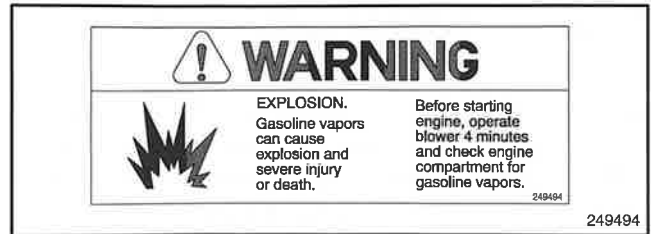

Figure 9 Decal
6. For gasoline-powered generator sets, select a location as near as practical to the generator remote digital gauge for mounting warning decal part number 249494. See Figure 9. The decal should be visible when starting the generator set from the remote digital gauge. Before applying the decal, ensure that the surface is clean and dry.